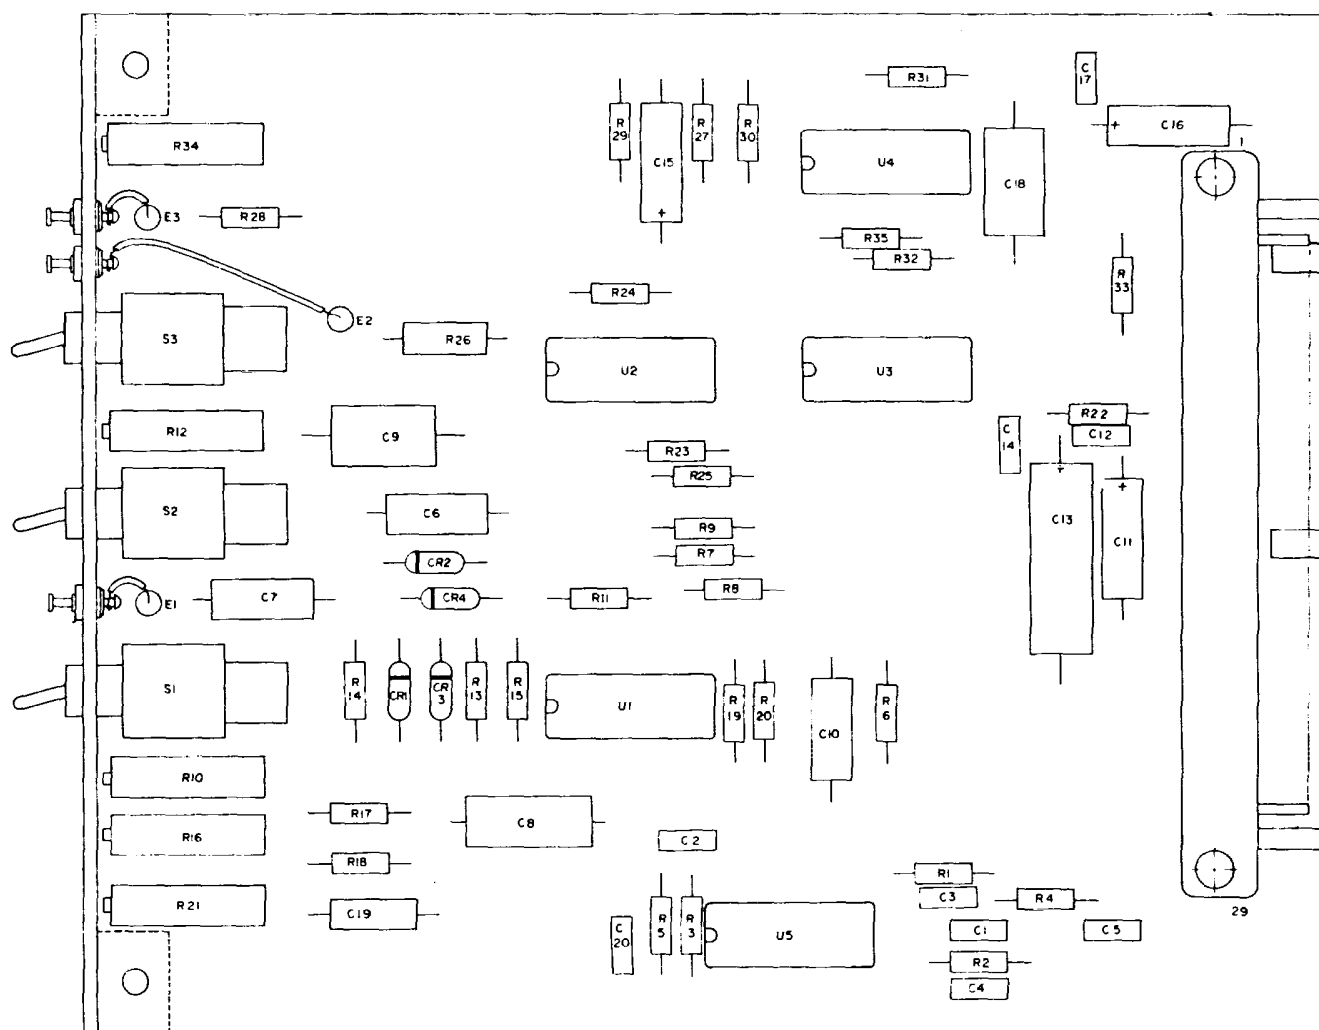

Figure 6-3. Ident OSC/MOD Mixer Circuit Card Assembly, 1A4A2 Parts Location Diagram
c. Ident Osc/Mod Mixer Circuit Card Assembly {1A4A2} Disassembly. This circuit card assembly should be removed only when servicing or component replacement is required. Refer to figure 6-3 for location of component to be replaced. To remove this circuit card assembly, grasp both edges of the card and pull up.